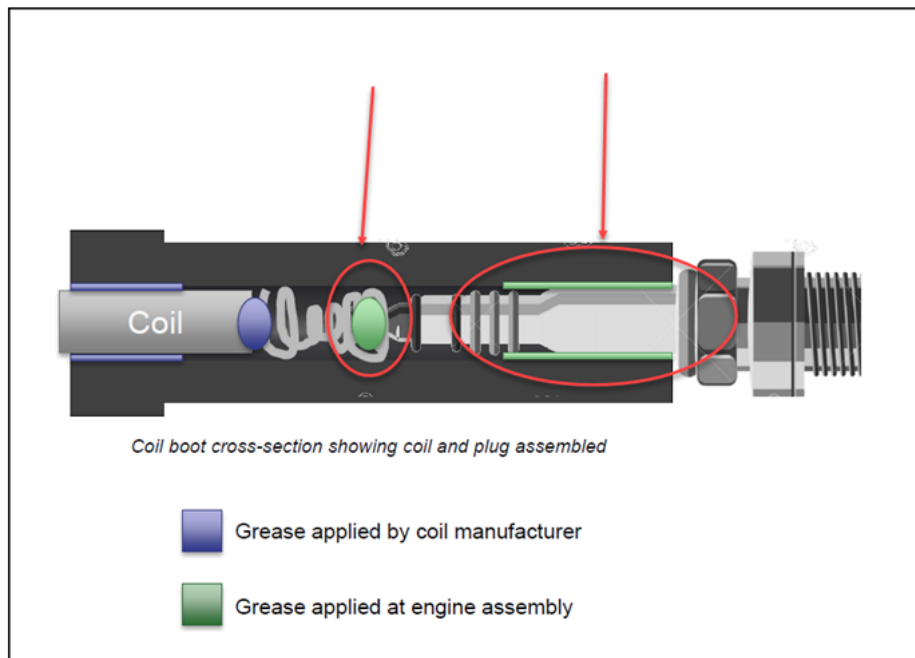

Figure 39. Dielectric Grease applied to ignition coil boots
1. Apply dielectric grease (Permatex Dielectric grease #81150 or equivalent) to each coil as shown in figure 39.